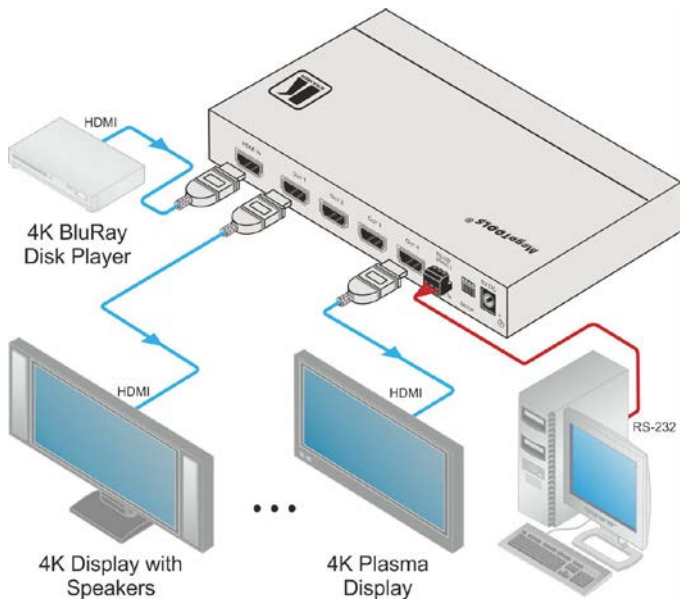

Figure 2: Connecting the VM-4H2 4K HDMI 2.0 1:4 DA
To connect the **VM-4H2**, as illustrated in the example in Figure 2, do the following:
3. Connect the 5V DC power adapter to the power socket unit and then connect the adapter to the mains electricity (not shown in Figure 2).